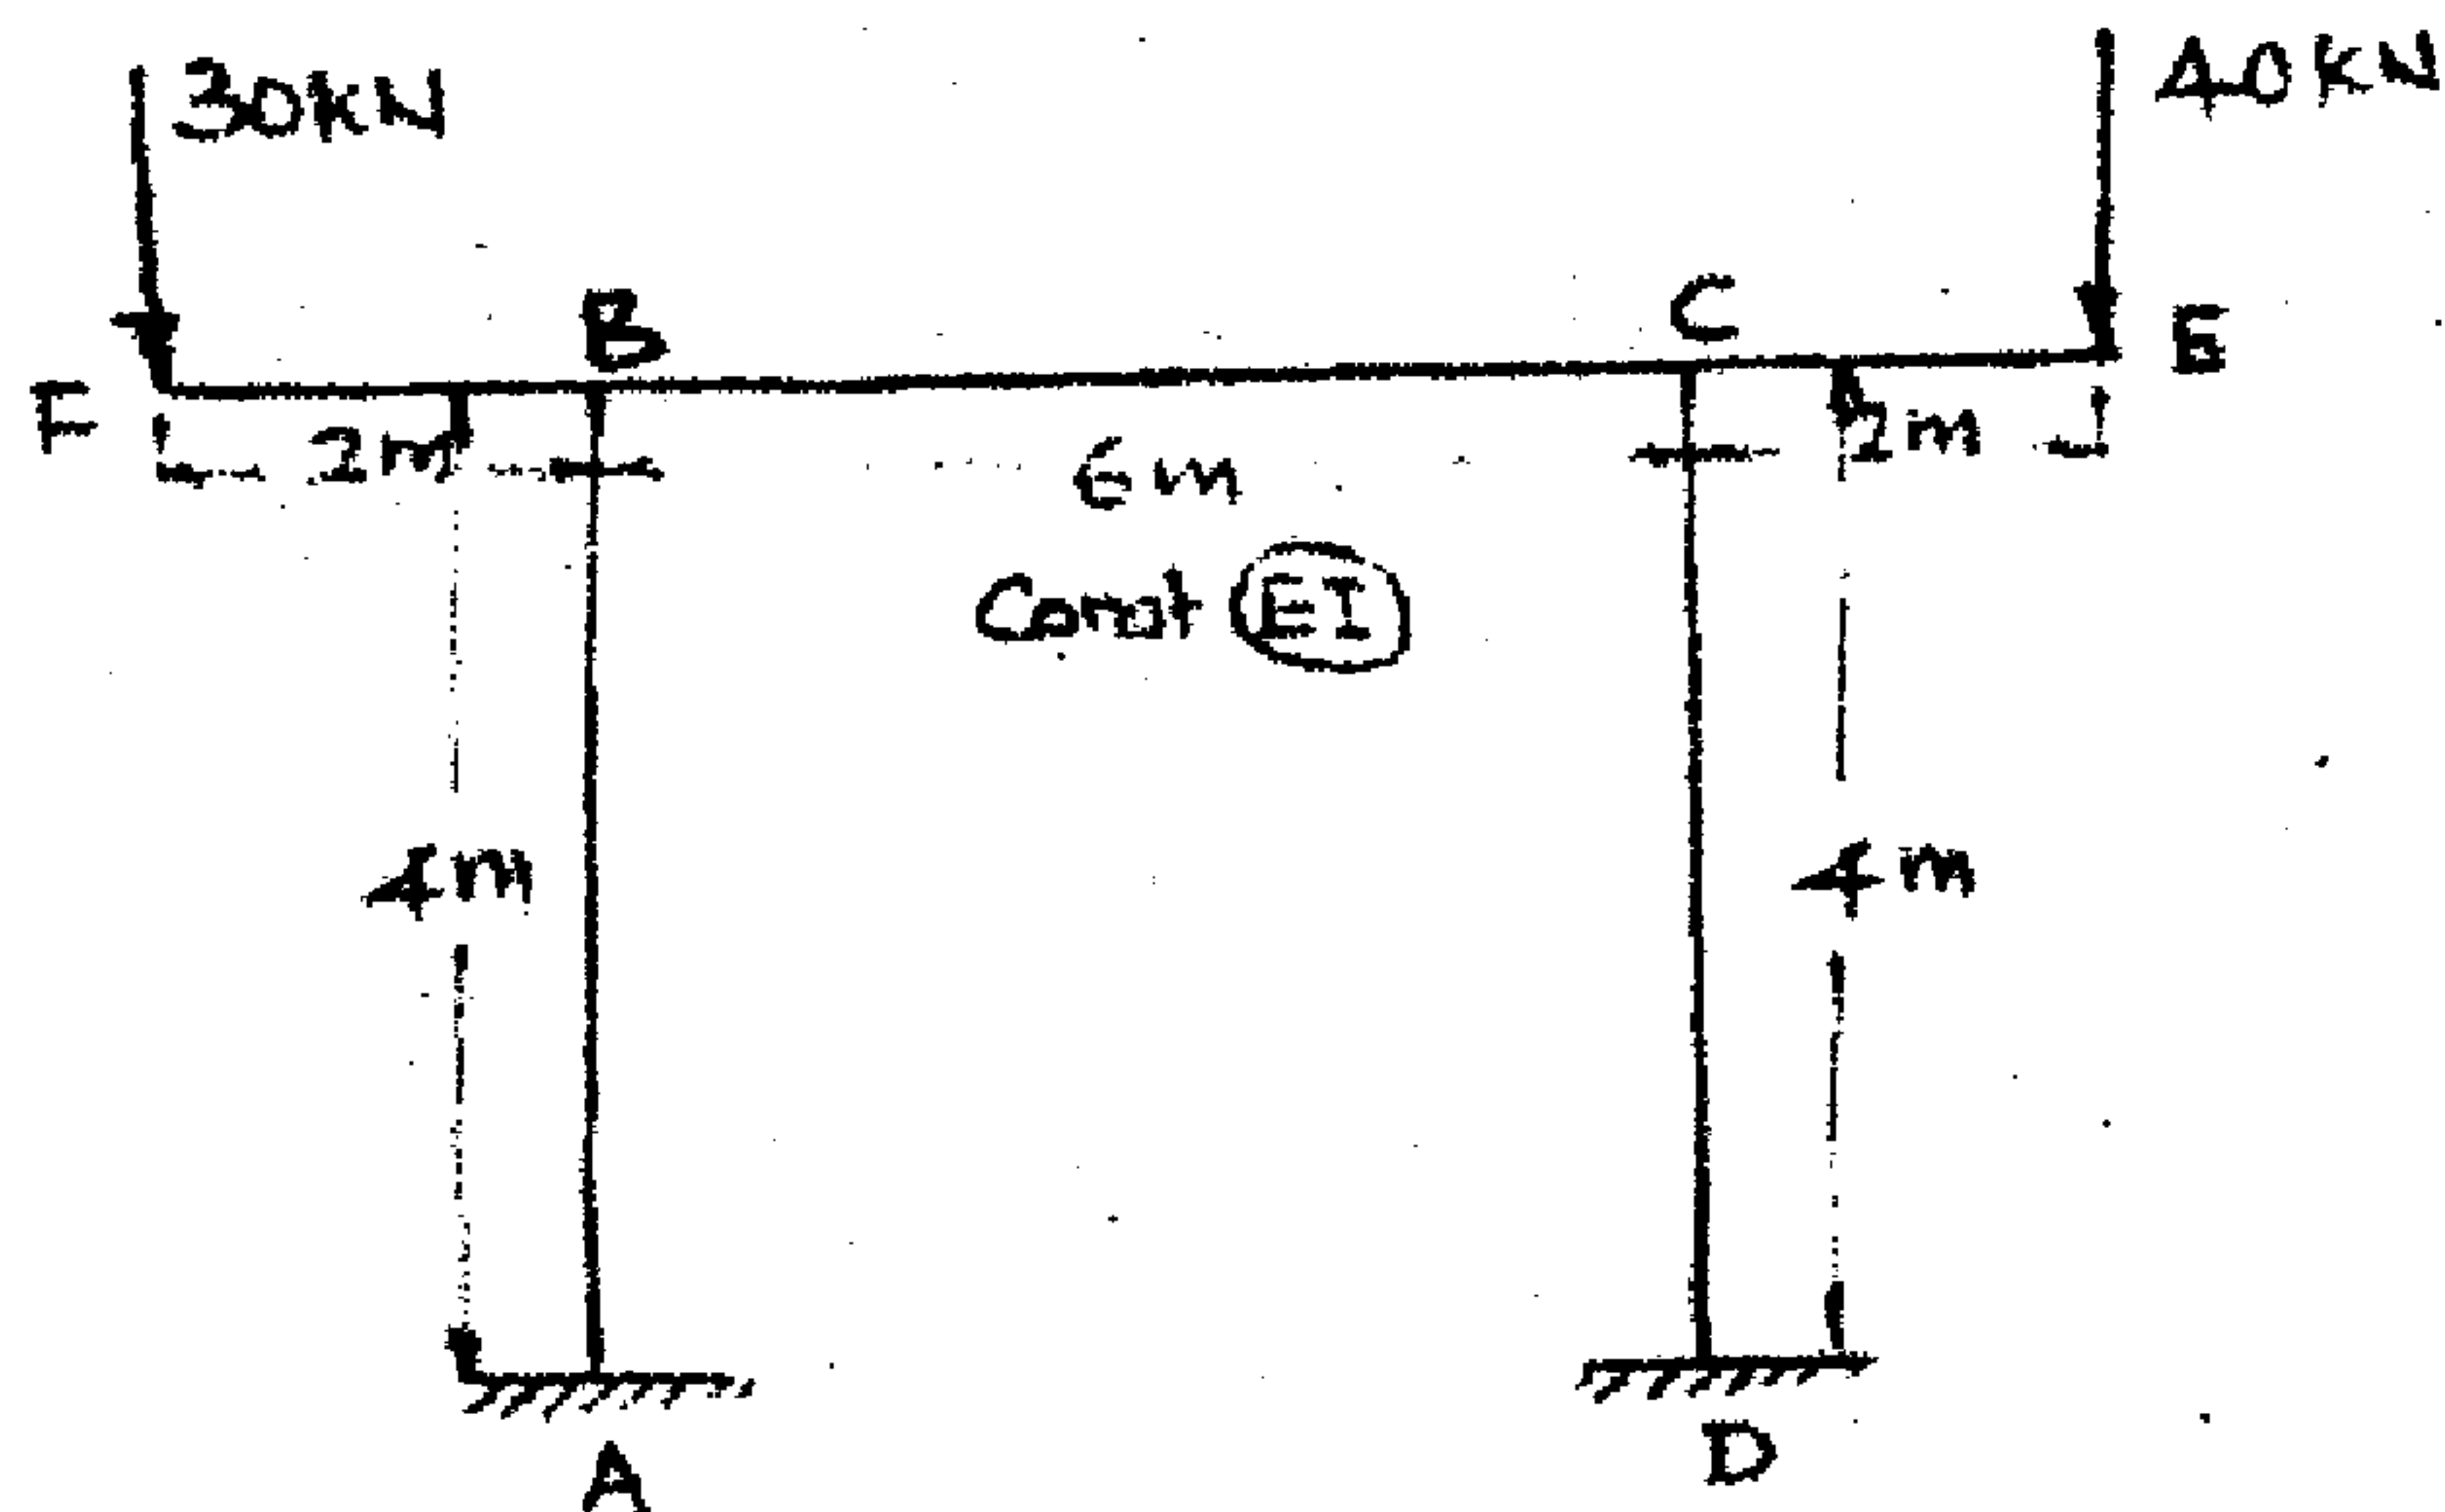

Fig. Q4
- 4 Analyse the frame shown in figure Q4 subjected to side sway by using moment distribution method. Hence draw B.M.D., S.F.D. and also sketch the elastic curve. (20 Marks)